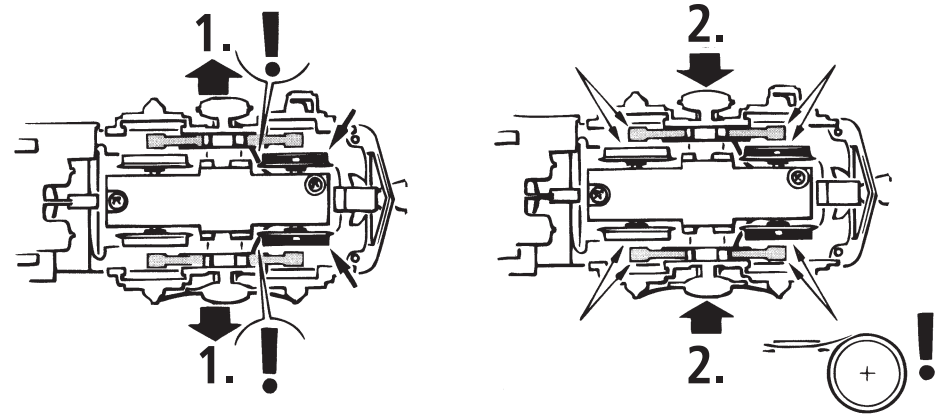

Fig. 5
1. Cleaning of wheel contacts: Wheel contacts easily get dirty on tracks which are not entirely clean. Use a small brush to **remove dirt** from spots marked in fig. 5.